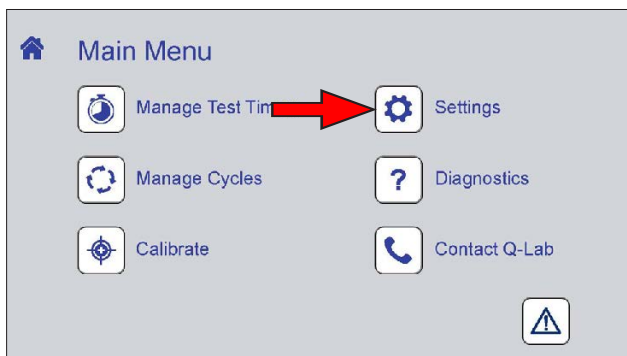
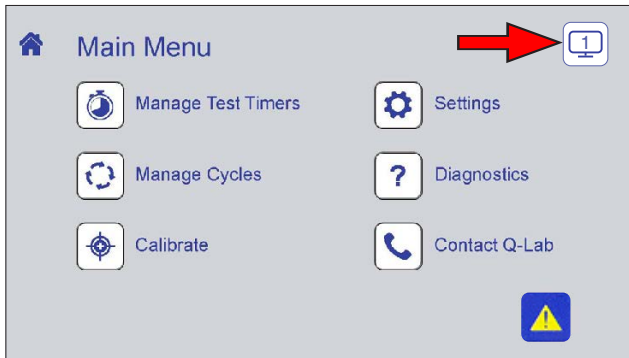

Figure 11.7a: Touch the Settings icon on the Main Menu screen to display settings controls.
Figure 11.7x: Main Menu in single screen mode. Touch the screen icon.
- On the Main Menu screen touch the Settings icon (Figure 11.7a) to display the Settings screen.
- o A button appears in the upper right corner of the screen to toggle the remaining screen between Main Menu and Status displays (see Figure 11.7x through Figure 11.7aa).
Figure 11.7aa: Touch the Main Menu icon to display the Main Menu.